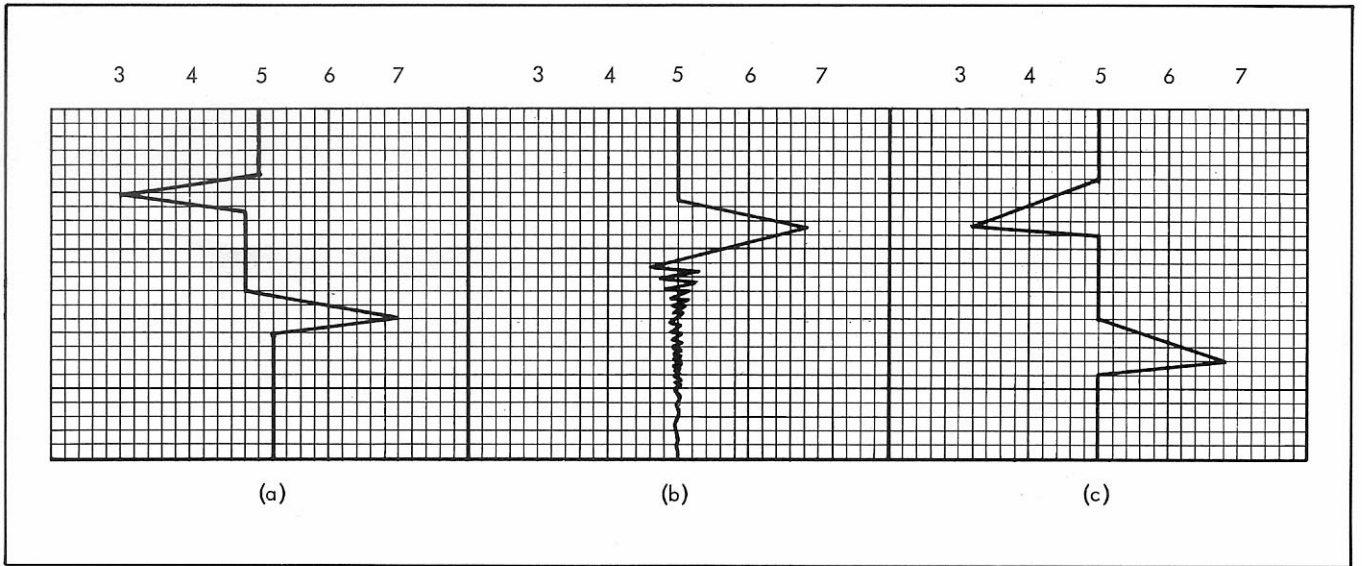

FIGURE 5-4. GAIN ADJUSTMENT CHART
d. Manually move the pen off null approximately $1/10''$ (2.5mm). Allow pen to return to null slowly. Do not simply release it. Repeat this operation in the opposite direction. The trace should appear similar to (c) in figure 5-4. If the pen does not return to the original setting as shown in (a) of figure 5-4, the gain is too low. Oscillation of the pen and excessive over shoot as illustrated in (b) of figure 5-4 indicates excessive gain.
f. Repeat above procedure until trace similar to (c) of figure 5-4 is obtained.